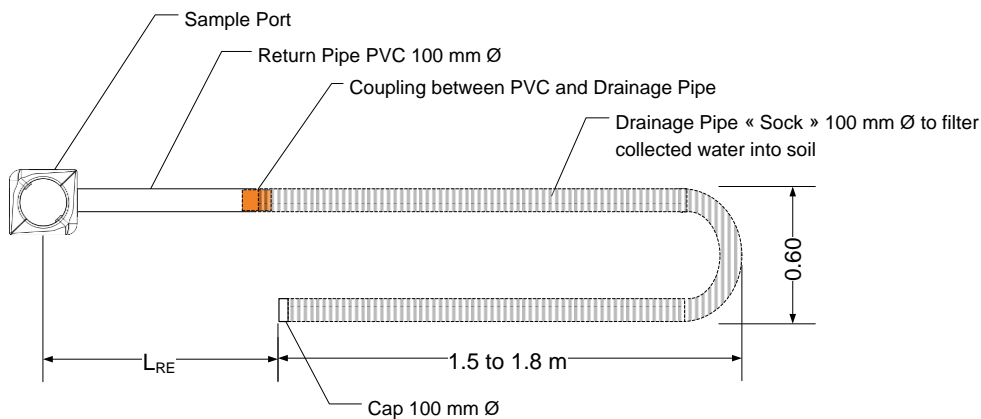

Fig. 51
- Complete the installation of the drainage pipe as shown in Fig. 51.